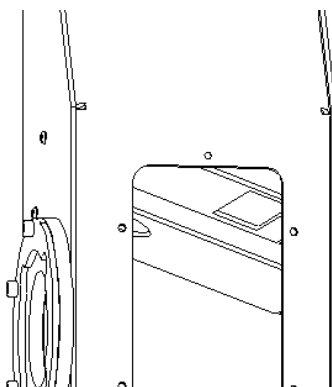

Figure 52 - Smoke box cover
- Inside the box there are two smoke deflectors, positioned as shown in Figure 52, to carry out a proper cleaning it is necessary to remove them.